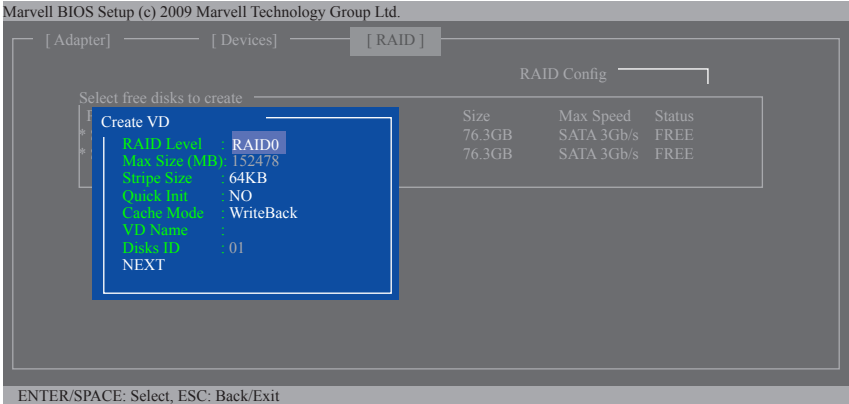

Figure 8
Step 3: On the **Create VD** menu (Figure 8), use the up or down arrow key to move the selection bar to select an item and press <Enter> to display options. Set the required items in sequence and press the down arrow key to proceed to the next item.